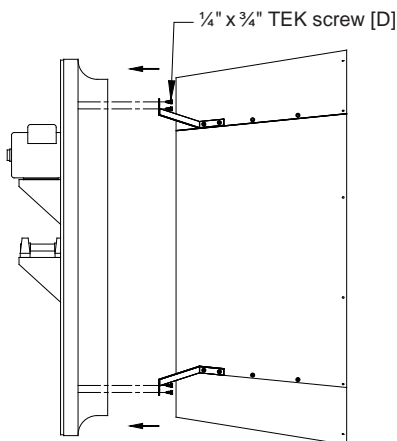

Figure 8
Attach support brackets to orifice using the (2) Screws [D] through each support bracket. See Figure 8.